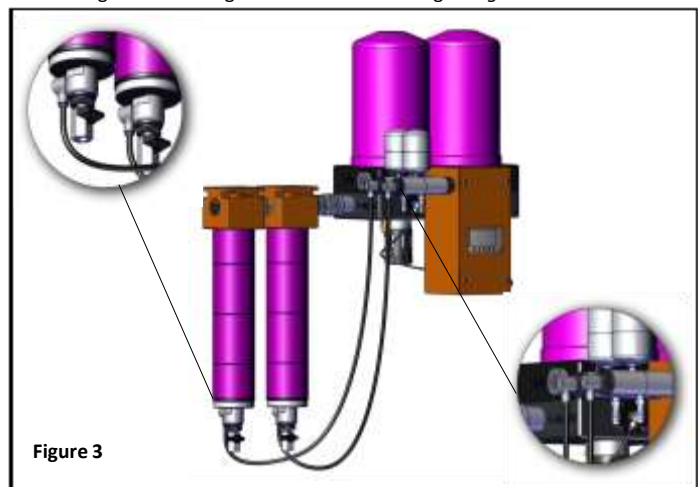

Figure 3
9. Use the provided 1/4" black nylon tubing to connect the Moisture Minder® Piston Drains to the strainers located on the bottom of each filter housing. Excess tubing can be trimmed to length. Figure 3